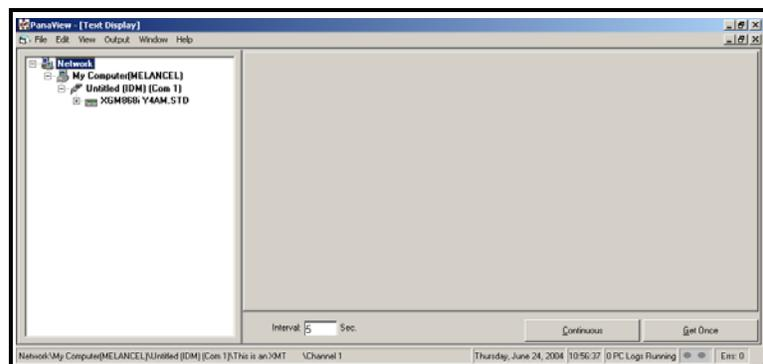

Figure 2-2: The Text Display Window
3. Using the *Window* menu, arrange the open windows in the desired format. For this discussion, Figure 2-2 below shows the *Text Display* window in its maximized (full-screen) size.
Note: Figure 2-2 has been compressed both vertically and horizontally for improved clarity.
5. Before actual data values can be displayed in the text pane, activate one of the following data collection modes (see Figure 2-2 on the previous page):